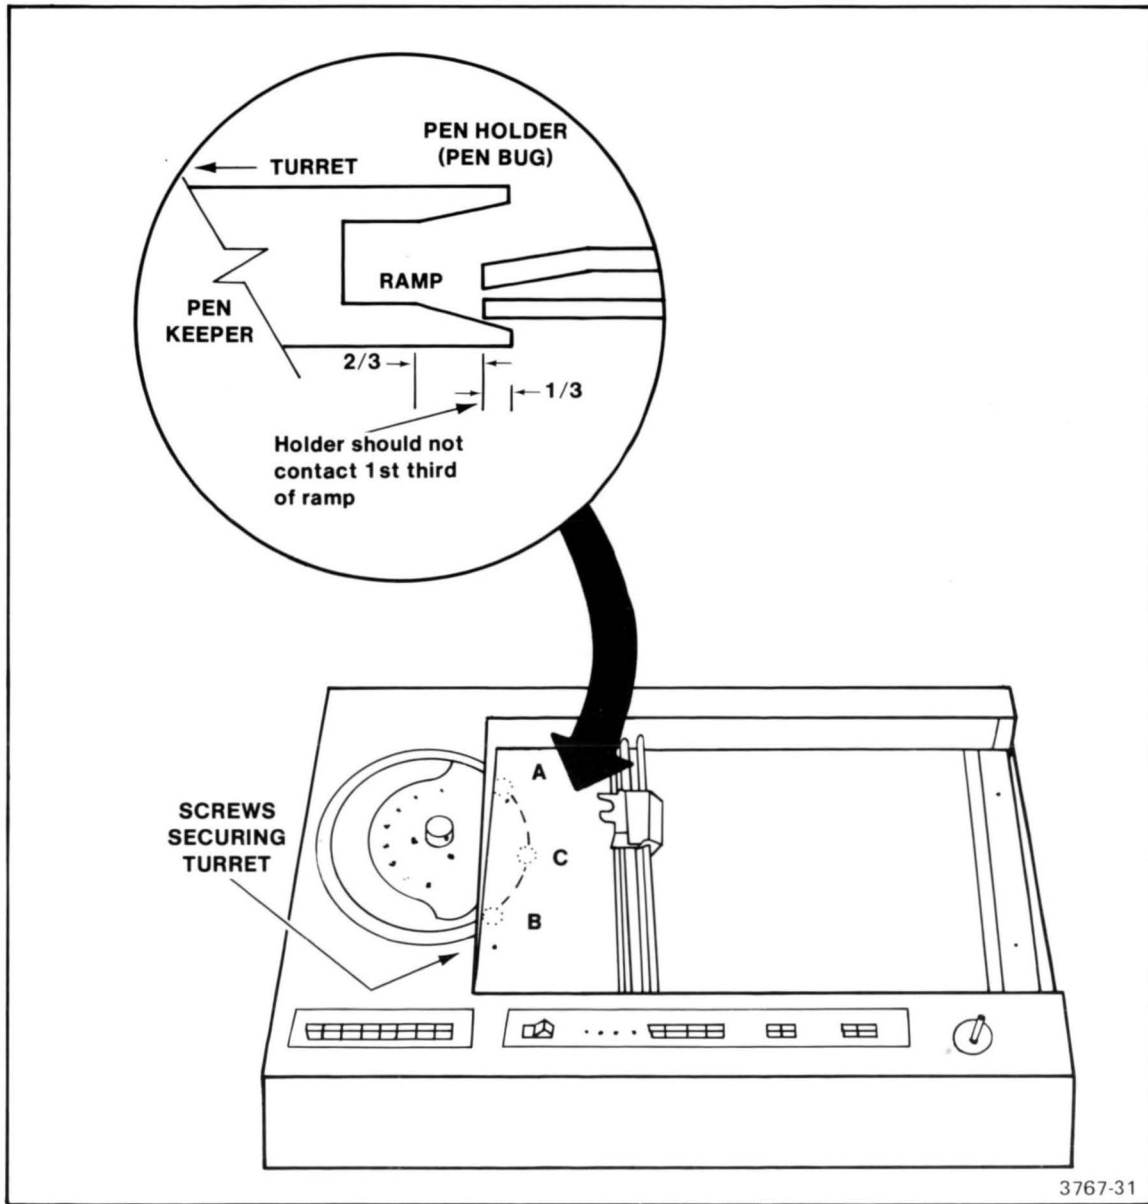

Figure 2-17A. Relationship of the Pen Holder to the Keeper.
- Check the clearance between the pens in the turret and the platen at point A (Figure 2-17A). Clearance should be a minimum of .055 inch. If the clearance is less than .055 inch, loosen the screw below point A which secures the turret assembly to the 4662 side frame. Push the corner of the turret assembly up until the clearance is .055 inch, tighten the screw.
- Move the turret to point C. Each of the pens should clear the platen by a minimum of .040 inch. Also the pen holder should first contact the ramp of the pen keeper at a point at least 1/3 of the way up the ramp (Figure 2-17A).